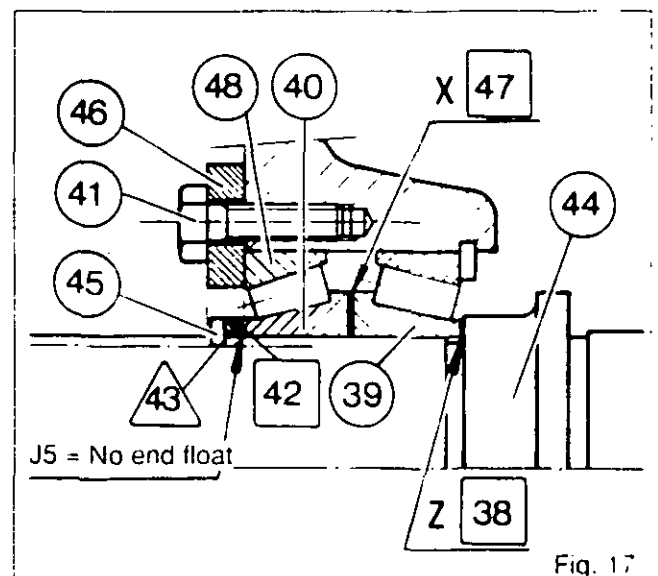

Fig. 17
55. Remove bolts (41) and retainer ring (46).
56. Remove cup (48).
57. Withdraw cones (40) and (39), and shim(s) X [47].
58. Slide the following onto the shaft: shim(s) Z [38], cone (39), shim(s) X [47] and cone (40).
59. Make setting J5 (Fig. 17) to give :